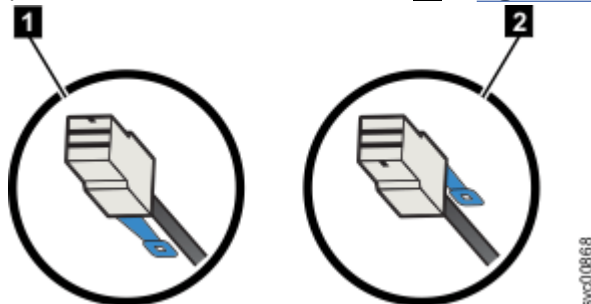

Figure 58. SAS cable connector orientation
- For systems, IBM Storwize V5100 control enclosures, and 2077-24F 2U expansion enclosures, the blue pull tab must be below the cable (1 in Figure 58 on page 57).
- For 2078-92F, 2078-A9F 5U expansion enclosures, the blue pull tab must be above the connector (2 in Figure 58 on page 57).